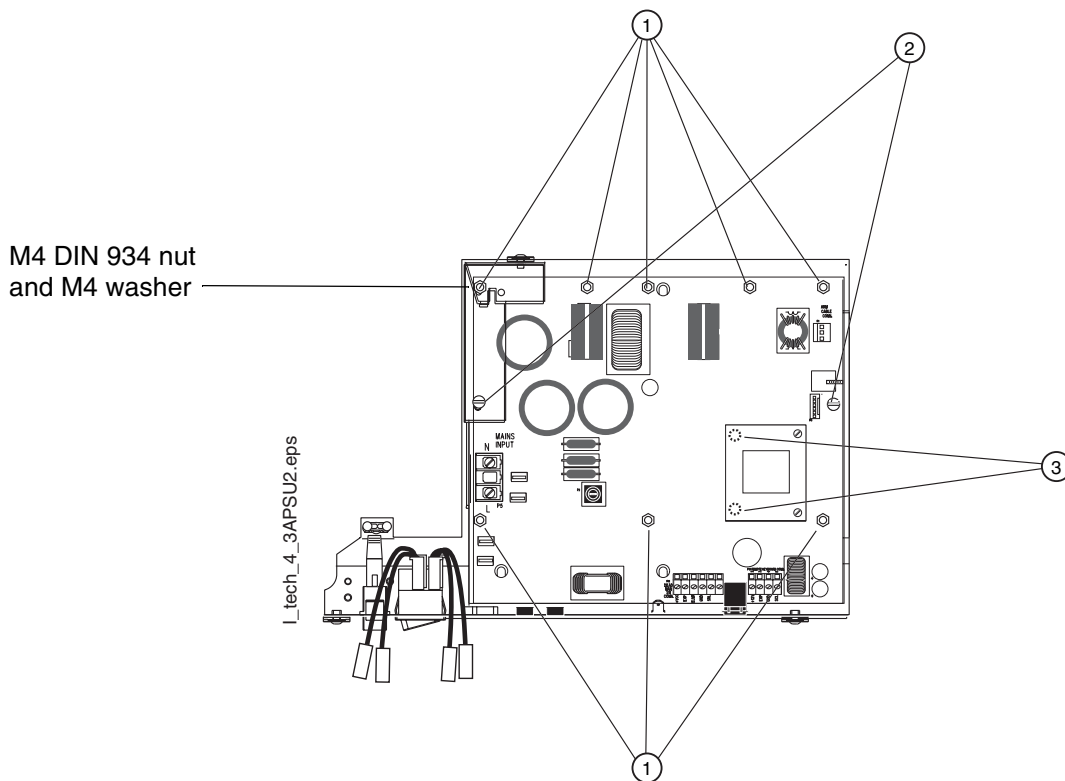

Figure 8
- e) Remove the eight M4 DIN 934 attachment nuts and $\varnothing 4.3$ DIN 6798 washers from the Generator PCB (Fig. 8, 1). Unscrew the two M4x8 DIN 84 screws (Fig. 8, 2). Lift the generator assembly away from the wall adapter and open the two M3x6 DIN 912 screws located behind the generator assembly frame (Fig. 8, 3).